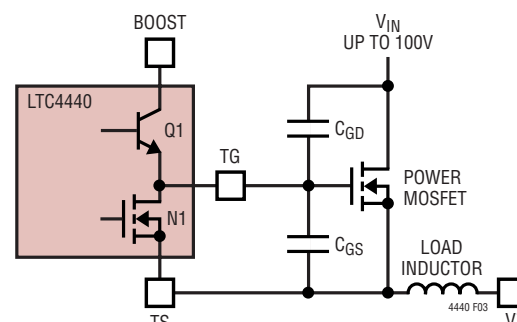

Figure 3. Capacitance Seen by TG During Switching
A simplified version of the LTC4440's output stage is shown in Figure 3. The pull-down device is an N-channel MOSFET (N1) and the pull-up device is an NPN bipolar junction transistor (Q1). The output swings from the lower rail (TS) to within an NPN  $V_{BE}$  ( $\sim 0.7V$ ) of the positive rail (BOOST). This large voltage swing is important in driving external power MOSFETs, whose  $R_{DS(ON)}$  is inversely proportional to its gate overdrive voltage ( $V_{GS} - V_{TH}$ ).